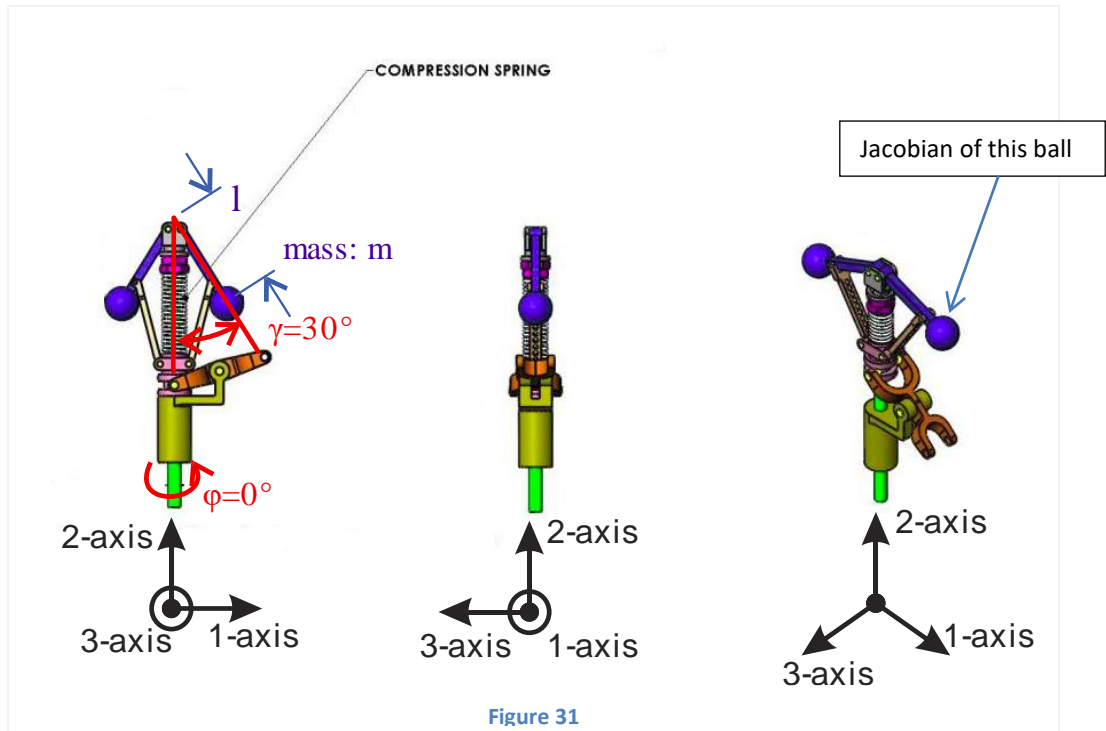

Figure 31
- (d) Figure 31 shows a hobbyist's implementation of a flyball governor. In the configuration shown, the angle of the axis is  $\varphi = 0$  and the angle of the linkage is  $\gamma = 30^\circ$ .